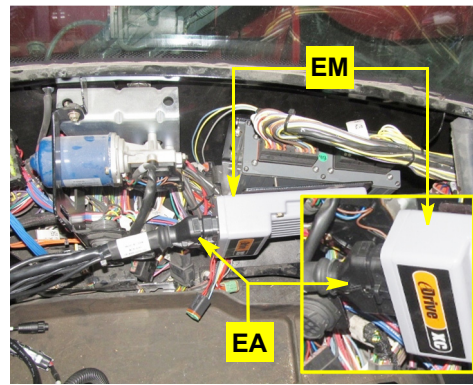

Figure 3a: ECU's main cable connected
- a. Connect ECU main cable **EA** to ECU **EM** (Figure 3a).